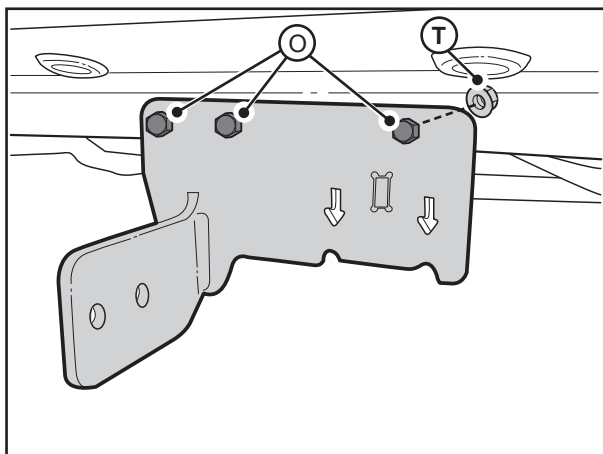

FIGURE 17
- Fit the M5 hex bolts x3 **(Item O)** through the Rear Panel bracket and install the M5 Nuts x3 **(Item T)** as shown in Figure 17.